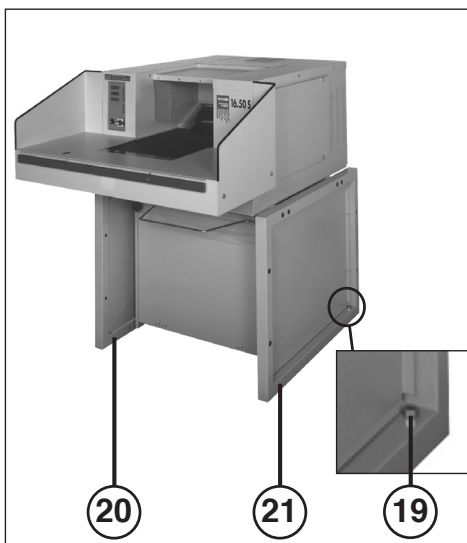

Fig. 2
- 19 = Levelling screw (fig. 2)
6. Adjust the levelling screws (19) to compensate for any unevenness in the floor (fig. 2).